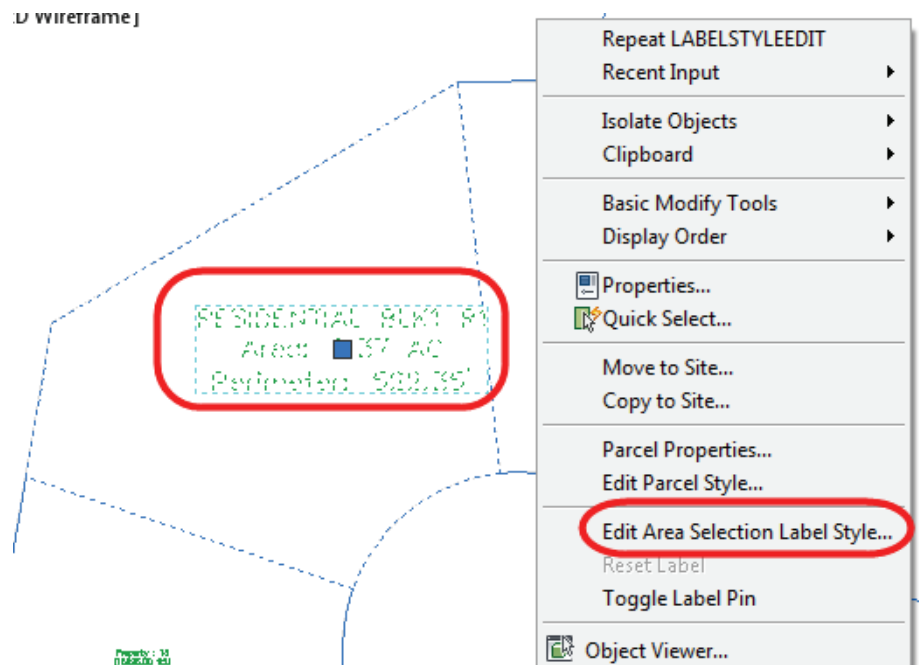

Figure 2–35
3. Before renaming the newly created parcels, you need to change the label style of the original parcel. Select the parcel label **RESIDENTIAL BLK1 R1**, right-click, and select **Edit Area Selection Label Style**. Select **Name Square Foot & Acres** as the style and click to apply the changes and close the dialog box, as shown in Figure 2–35.